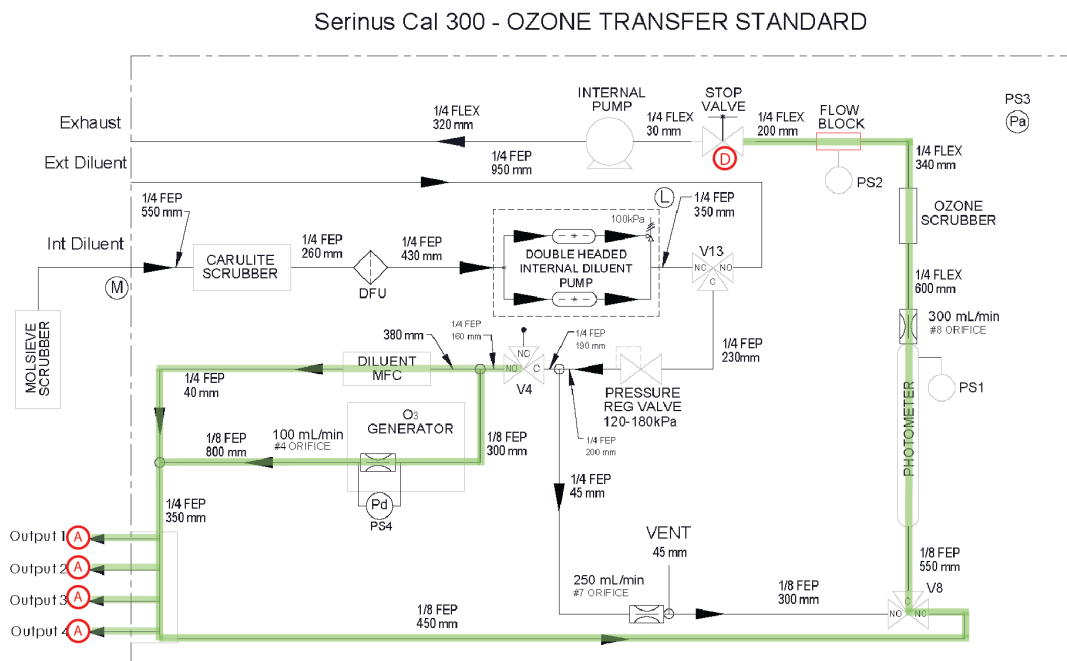

Figure 81 – Leak Check: 4 (Photometer + Gas Delivery)
4. Disconnect the two large ribbon cables on either side of the main controller PCA as well as all the connections to the rear panel PCA. Remove the top cover of the shielded photometer by loosening the five captive screws as seen in Figure 81.
4. Tighten the five captive screws as seen in Figure 81.